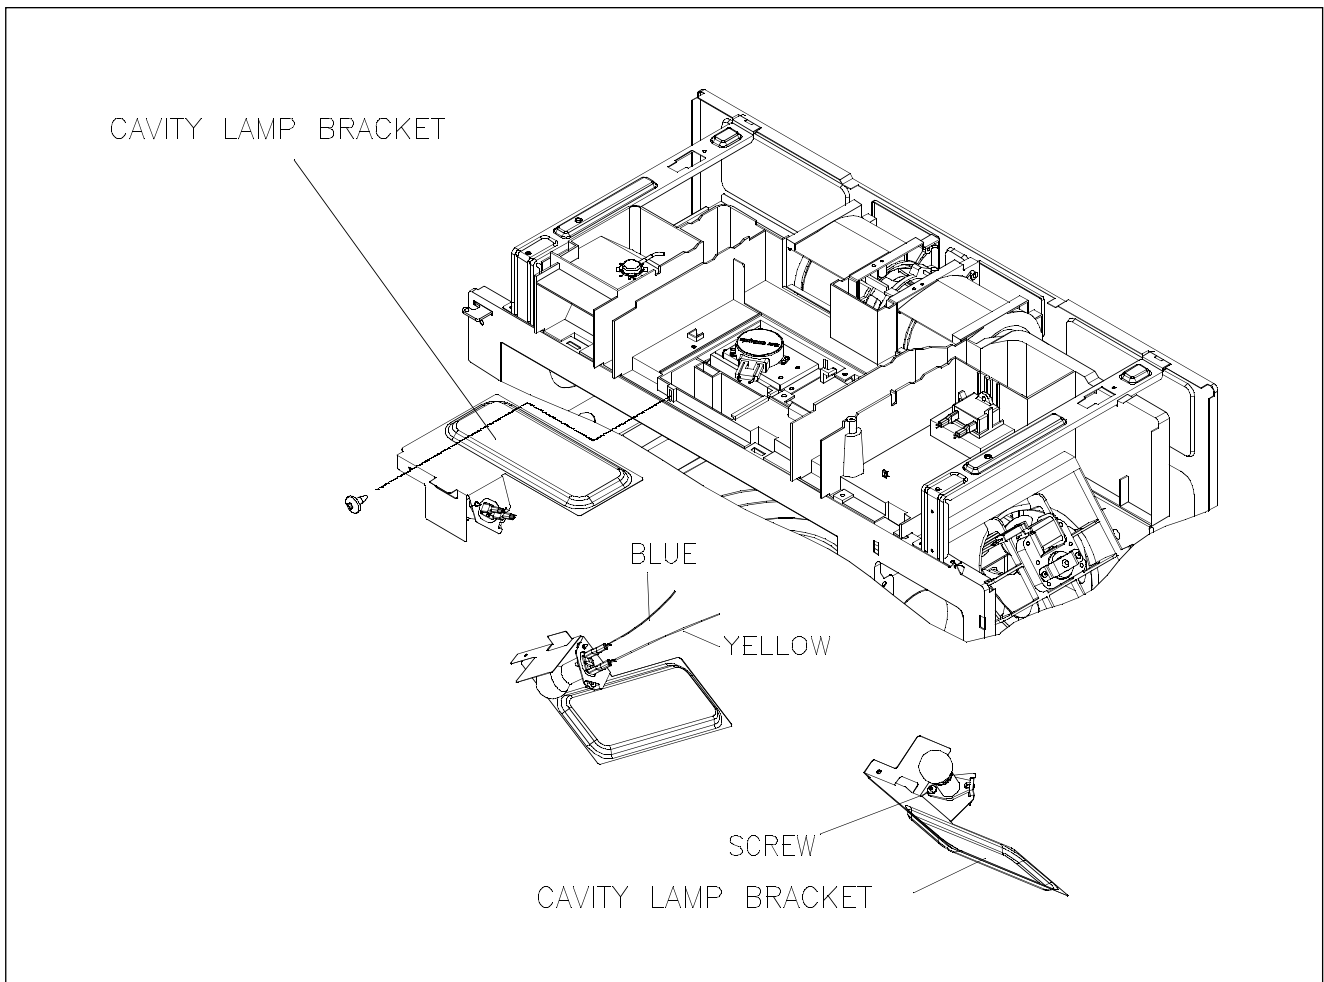

FIG. 4
3. Remove the wire protector(see Fig. 4).